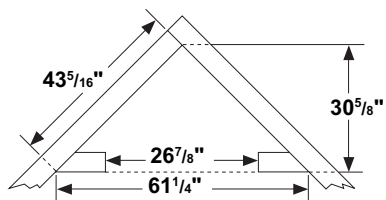

Figure 8 - Rough Opening for Installing in Corner
1. Frame in rough opening. Use dimensions shown in Figure 7, page 11, for the rough opening. If installing in a corner, use dimensions shown in Figure 8, page 11, for the rough opening. The height is 26 7/8" which is the same as the wall opening above.